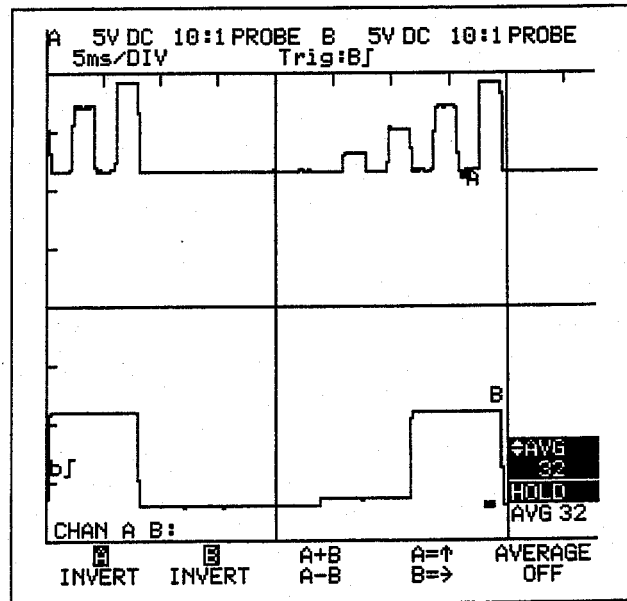

Figure 6.23
- Use **TIME** and **mV** and **INVERT** until you have a display as shown in Figure 6-23.